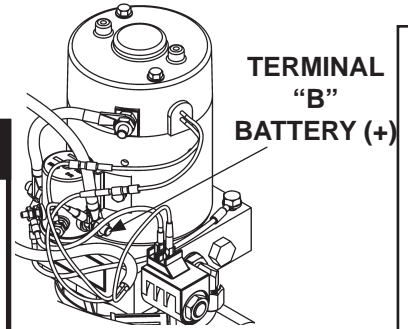

FIG. 69-1
1. Use voltmeter to verify power is being supplied to solenoid terminal "B". Recharge the battery if voltmeter indicates less than 12.6 volts (FIG. 69-1).